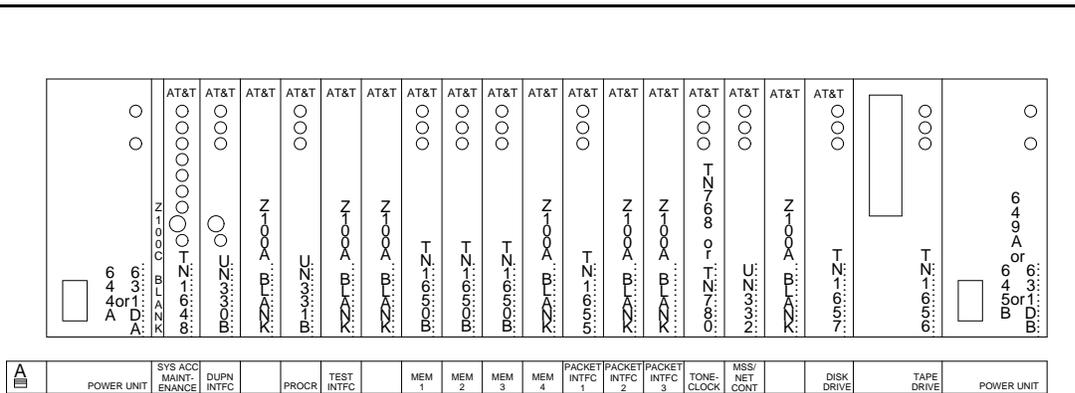

Figure 4-33. Circuit-Pack Locations in Duplicated DEFINITY ECS R5r Control Carrier
- Figure 4-33 through Figure 4-36 and Table 4-4 through Table 4-7 for DEFINITY ECS R5 MCC carriers